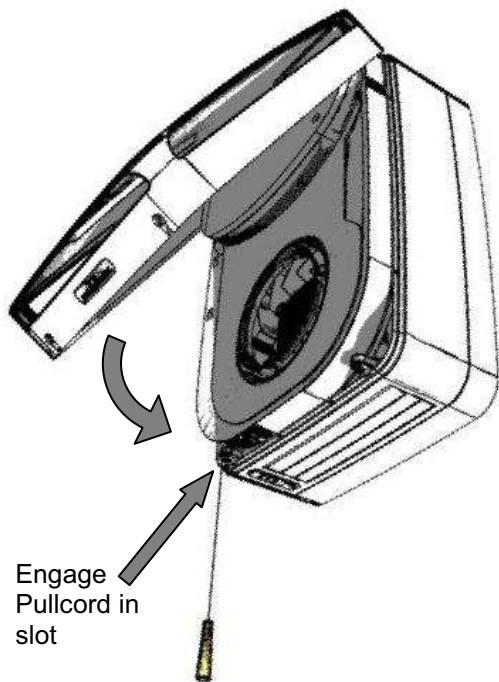

Fig.15
13) Re fit Cover Plate and tighten 2 screws Fig 15 &16. Ensure Pull cord is engaged in Lower Slot